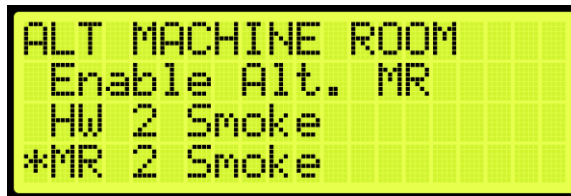

Figure 614: ALT MACHINE ROOM Menu – MR 2 Smoke
3. From the ALT MACHINE ROOM menu, scroll and select MR 2 Smoke (See Figure 614).